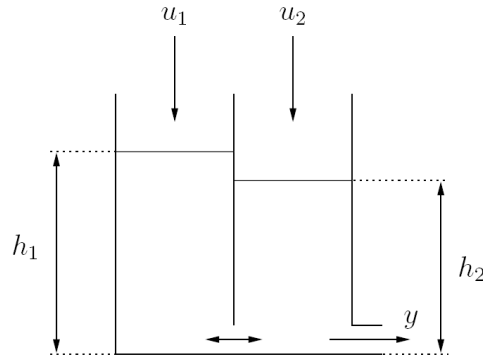

Figure 2.7
- 2.6** Consider a water tank with a separating wall. The wall has a hole at the bottom, as can be seen in figure 2.7.